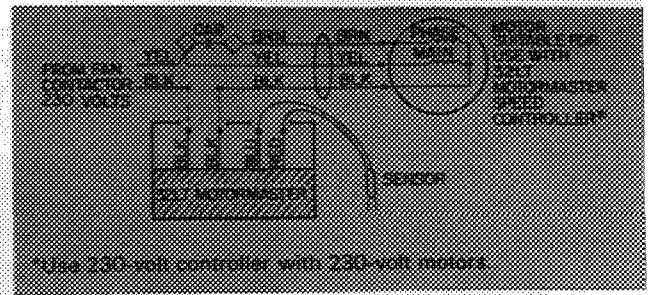

Fig. 22 — Power Wiring
2. **Power Wiring** must be checked to ensure that it is as specified and in compliance with local code requirements. Wire Motormaster control in series with fan motor (Fig. 22). Route the Motormaster power lead thru field-supplied connector in bottom of unit control box. If necessary, drill hole in bottom of control box. Use the 200/230-volt Motormaster unit.